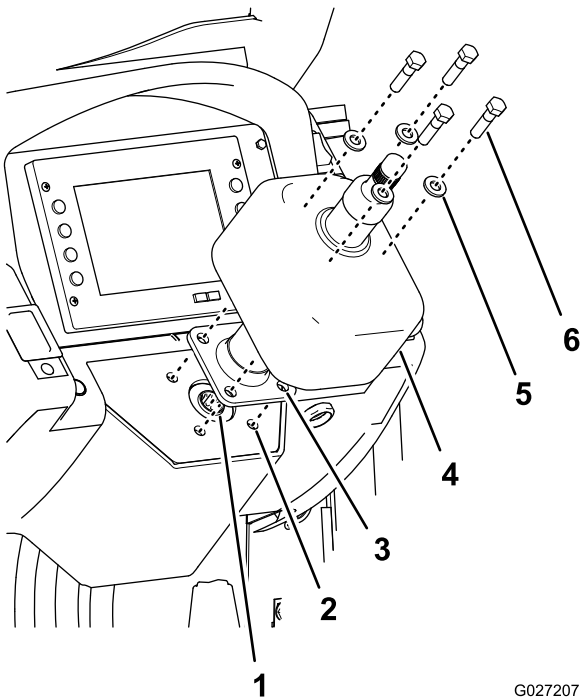

Figure 9
3. Align the short-spline shaft (at the flange end of the tilt-steering column) to the spline socket of the steering valve by turning the steering-wheel shaft of the column and insert the short-spline shaft (Figure 9).
4. Align the holes in the mounting flange of the tilt-steering column, the holes in the steering support, and the threaded holes in the steering valve (Figure 9).
6. Assemble the column, plate, and valve with the 4 bolts (3/8-16 x 1-1/4 inch) included in this kit and the 4 washers (3/8 inch), that were removed in step 3 of 3 Removing the Fixed-Steering Column (page 1), as shown in Figure 9.